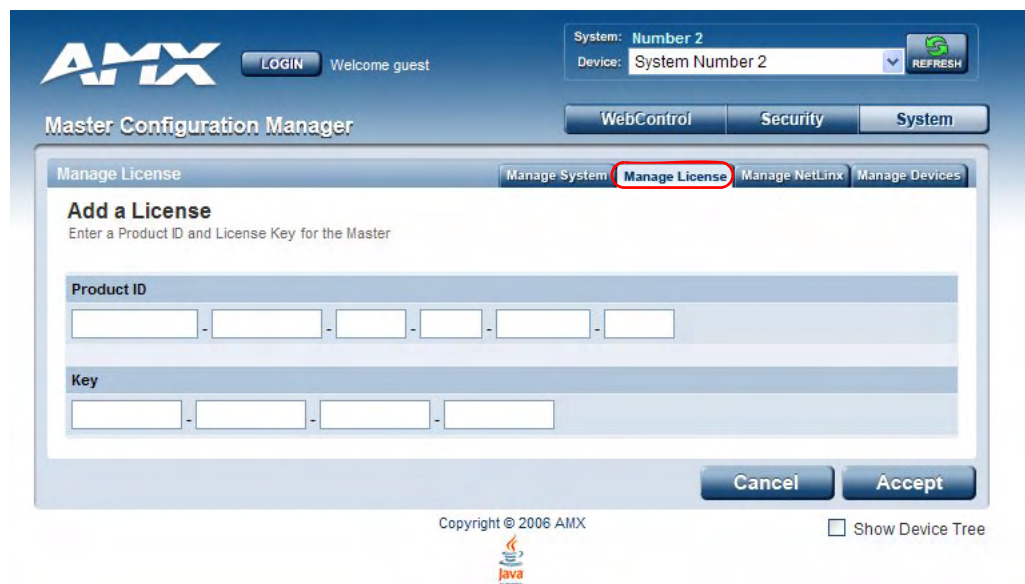

FIG. 17 Manage License - Add a License page
1. Click the **Add New License** button to access the *Add a License* page (FIG. 17).